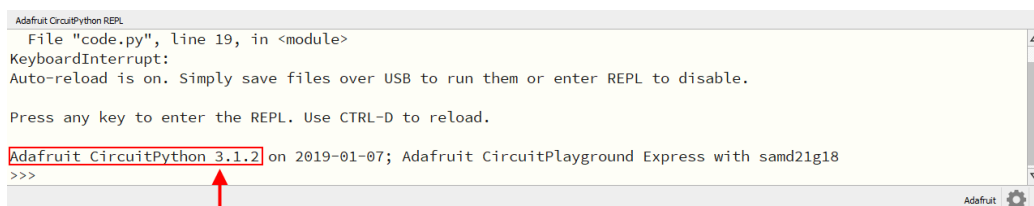

Figure 3: Finding the CircuitPython version with Mu
- (c) This will automatically print the current version above the first input line. Note the major version number. As an example, the CPX in Figure 3 is running CircuitPython version 3.